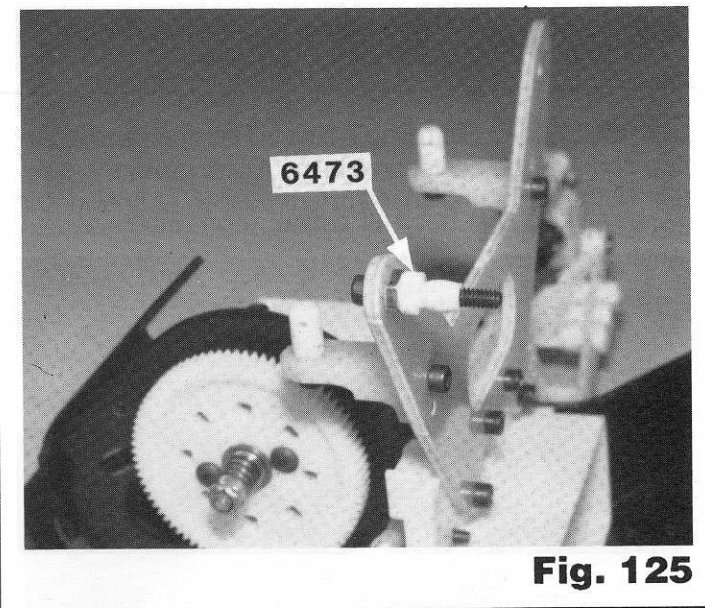

Fig. 125
□ **Figs. 125 & 126** From Bag 7-9, add a washer to each 4-40 x 3/4" shock mount screws and tighten with nuts as shown, with threads toward the front. Slip one of the #6473 plastic shock bushings on each of the four upper shock mounting screws, as shown, so that the thick flange part is towards the rear, as shown. Slip the upper shock cap onto the bushing, and screw on the #6295 4/40 plastic nut. Just screw the nut on till it touches the bushing, then stop, otherwise you'll compress the bushing and bind the movement of the shock. Do the left hand side.